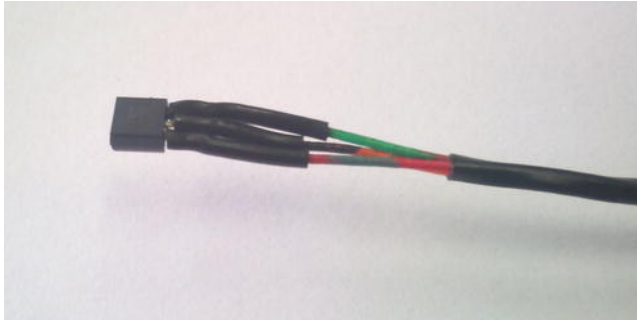

Figure 2-3. A temperature IC soldered to a 3-conductor cable with heat shrink applied
- Solder directly to the sensor and apply heat shrink tubing (see Figure 2-3).